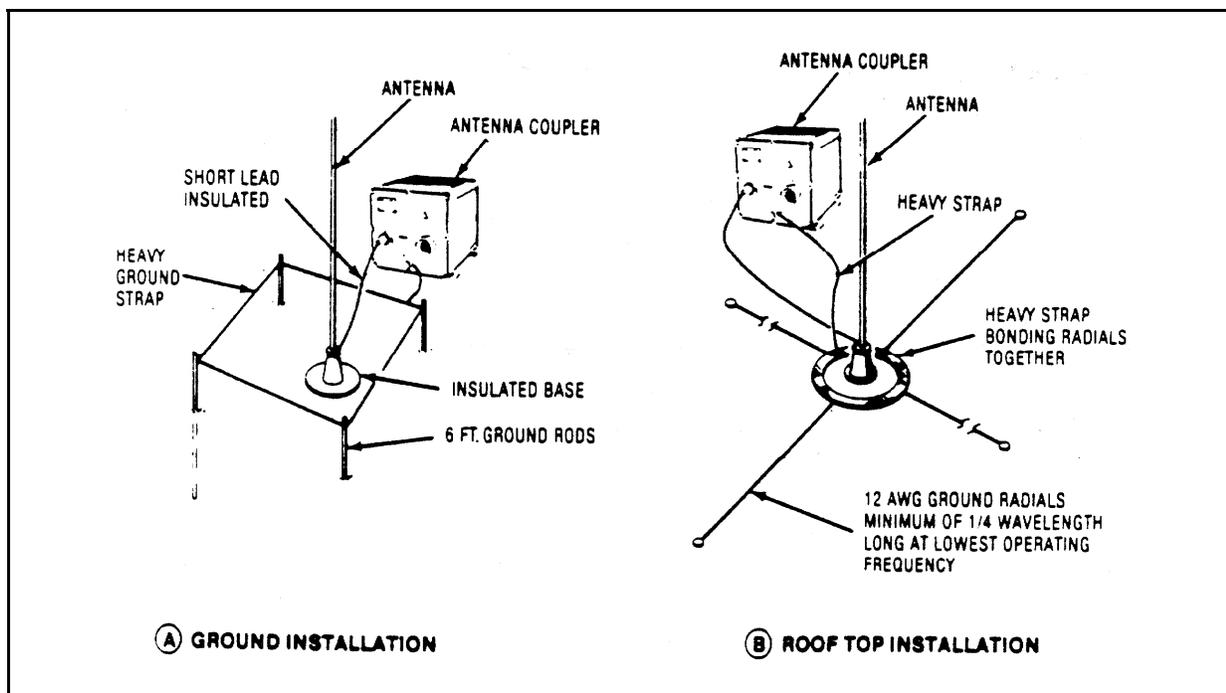

Figure 2.6 Whip Antenna.
- c) When using whip antennas, the ground system actually forms part of the radiating system. Where space permits (such as in a base station installation) a good ground plane or radial system should be installed at the base of the antenna. (See Figure 2.6)
Whips and longwires are popular non-resonant antennas. The whip antenna (illustrated in Figure 2.6), is often used in mobile, marine, portable or semi-portable installations because it is rugged and self-supporting. The antenna impedance is strongly dependent on the operating frequency, and an antenna coupler, therefore, must be used to match the antenna to the Transceiver/Exciter. Best radiation efficiency will be obtained if the antenna is at least  $1/8$  wavelength long at the lowest operating frequency; however, this requirement does not result in a practical size antenna for low frequency operation. Thirty-five foot whip antennas offer a good compromise between practical height and good electrical performance at low frequencies. The antenna coupler is designed to efficiently match whip antennas of 15 foot length or greater. An efficient match may also be obtained for a 9 foot whip above 4 MHz. The whip's performance is greatly influenced by its ground system. For temporary base station installations, a minimum of four six-foot long ground rods should be driven into the ground symmetrically placed around the antenna base. The rods should be bonded together with heavy strap and then connected to the antenna coupler ground by another short heavy strap. If the antenna is mounted on the roof of a building where a short ground lead to coupler cannot be obtained, a minimum of four symmetrically placed ground radials should be installed at the base of the antenna, bonded together, and connected to the antenna coupler ground post. The radials should be made of number 12 gauge wire or larger and should be at least  $1/4$  wave long at the lowest operating frequency. (Radial length in feet =  $246/\text{frequency in MHz.}$ ) The whip's radiation pattern is omni-directional in the azimuthal plane.